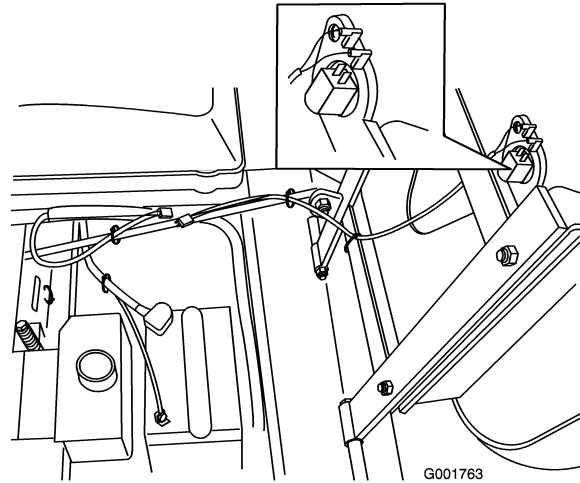

Figure 15
5. If needed, attach the two connectors onto the seat switch (Figure 15).